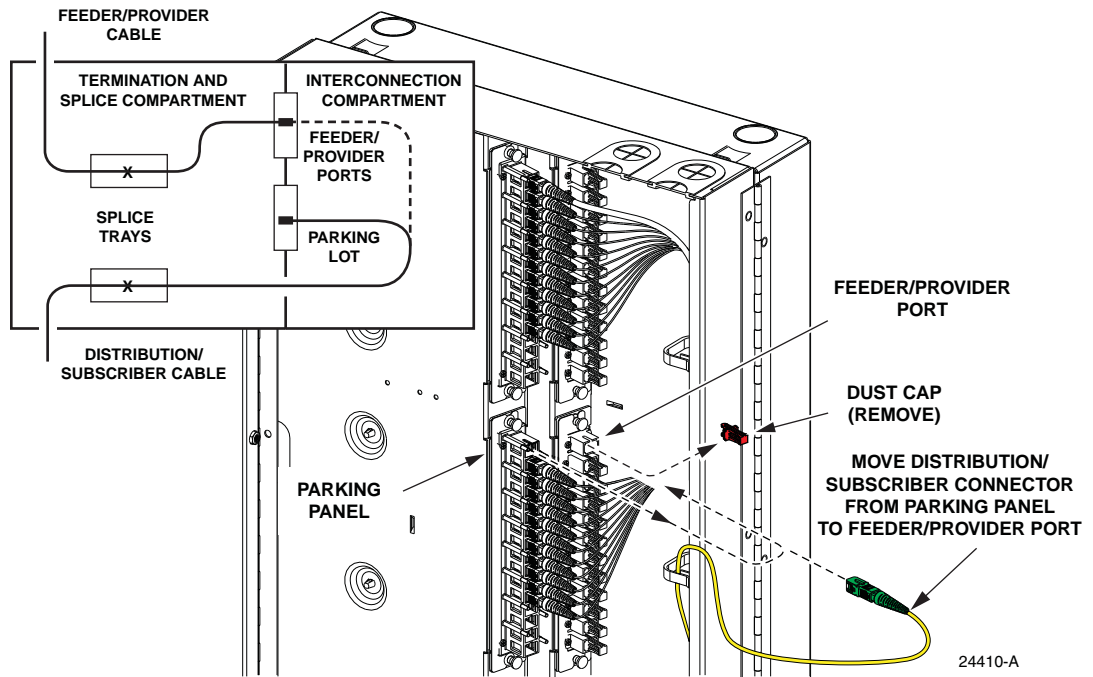

Figure 10. Interconnections – 24-Port IFDT with Pre-Installed Distribution/Subscriber Pigtails
**24-Port IFDT with pre-installed distribution/subscriber pigtails:** The distribution/subscriber pigtail connectors are temporarily parked in the parking lot. Service is initiated when a distribution/subscriber connector is moved from the parking lot to the appropriate feeder/provider port as shown in Figure 10